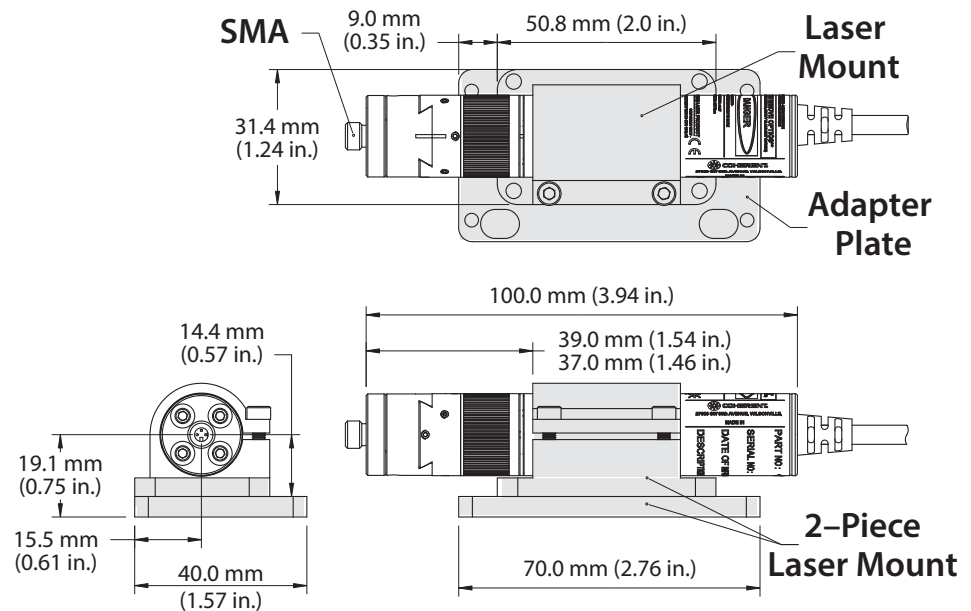

Figure 1-7. Dimensions — BioRay Laser (Fiber-Ready with SMA)
- Figure 1-7 shows the dimensions for a BioRay laser that is Fiber-Ready (FR) with a Sub-Miniature Adapter (SMA):